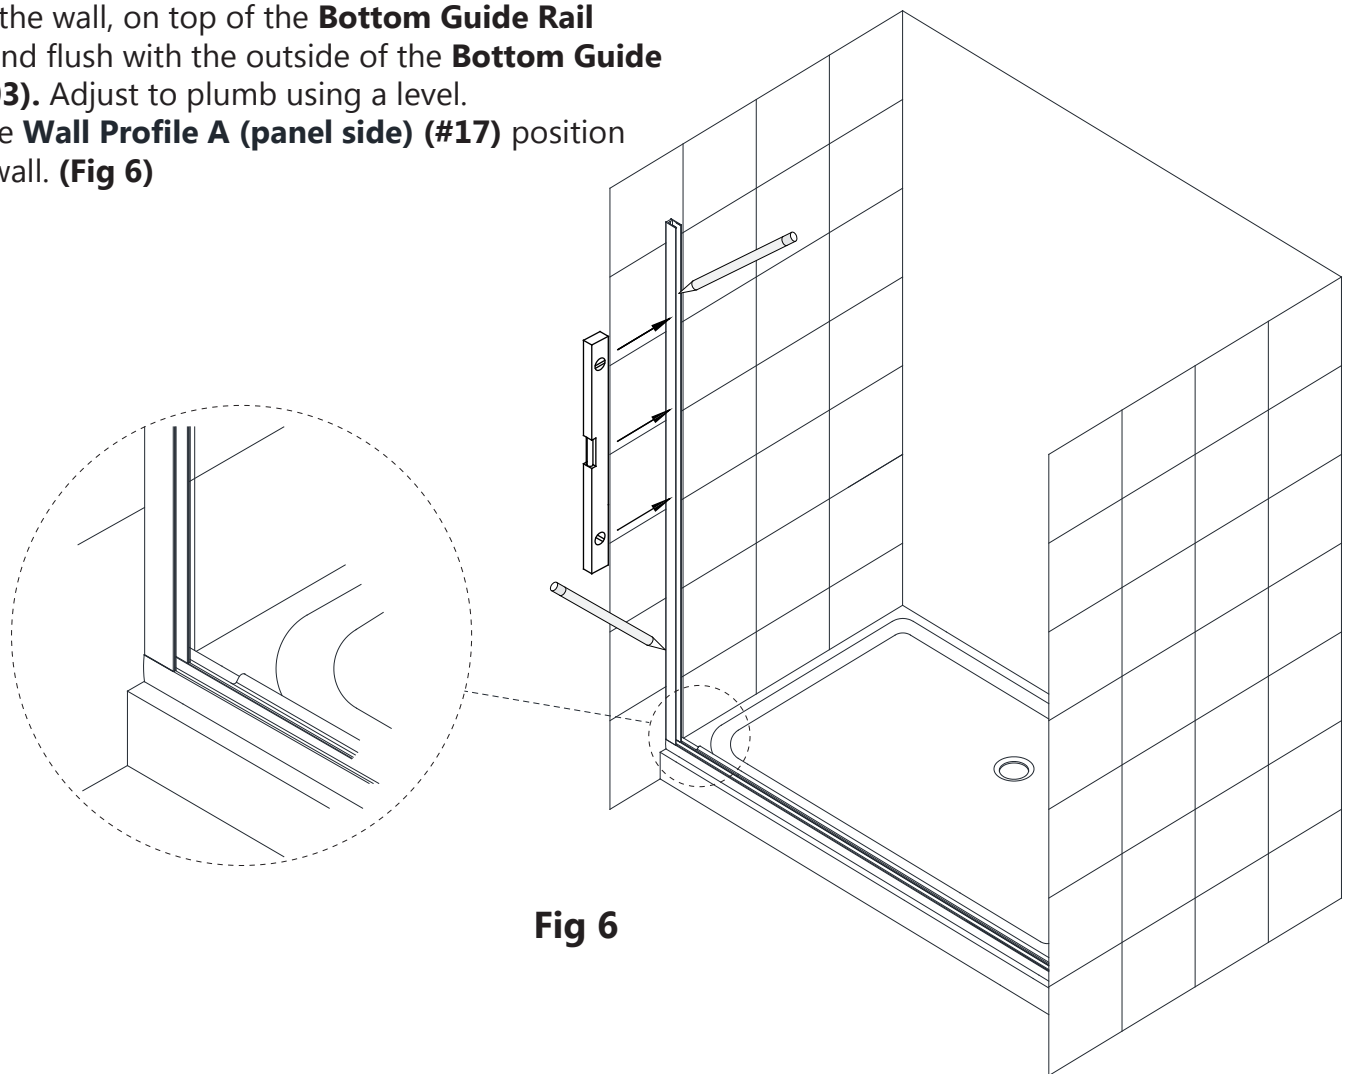

Fig 6
6. Position the **Wall Profile A (panel side) (#17)** against the wall, on top of the **Bottom Guide Rail (#03)**, and flush with the outside of the **Bottom Guide Rail (#03)**. Adjust to plumb using a level. Mark the **Wall Profile A (panel side) (#17)** position on the wall. (**Fig 6**)